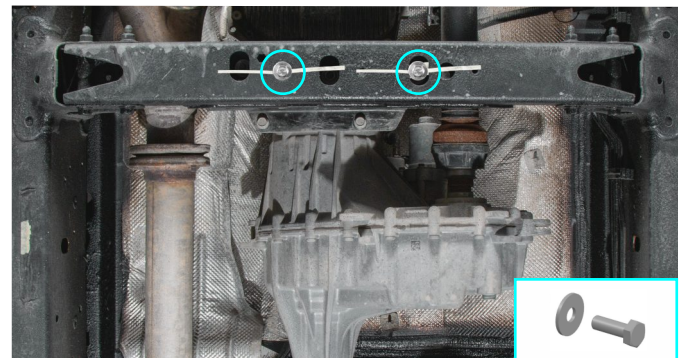

Fig. 4
4. Loosely insert supplied bolts M10x30 with flat washers M10 (items C, D) to insert nuts M10 (item A) (fig.4).